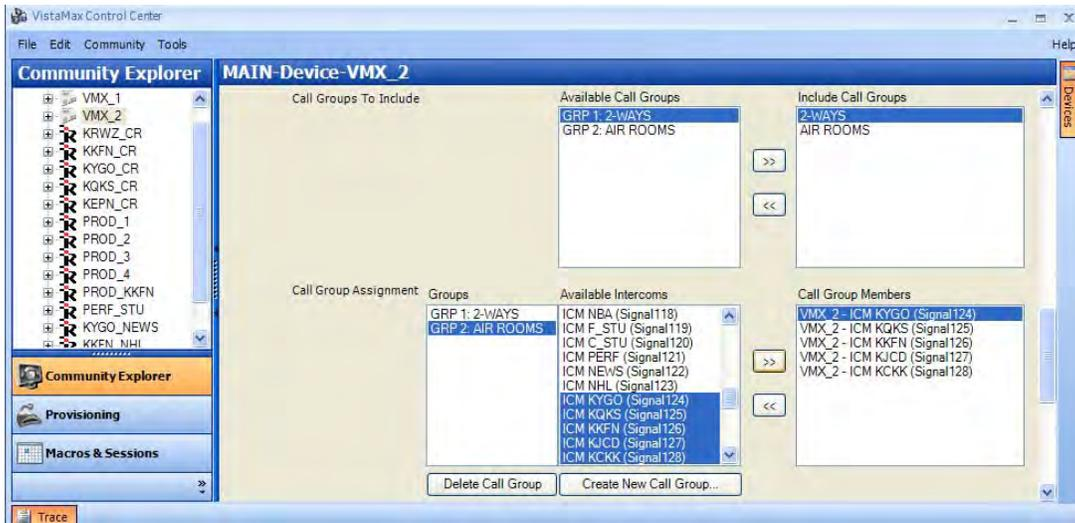

Figure A-10. VMCC Call Groups – Setting Call Group Members
4. Click the names of the **Available Intercoms** to include in the selected group (Figure A-10) in one of these ways:
1. In the VMCC **Community Explorer** pane, click + next to the device tree to open it. (In Figure A-10, the device is **KKFN_UPD**.)
- a. Click a logic input signal (such as **(2) Pin 9 (Module On)**).